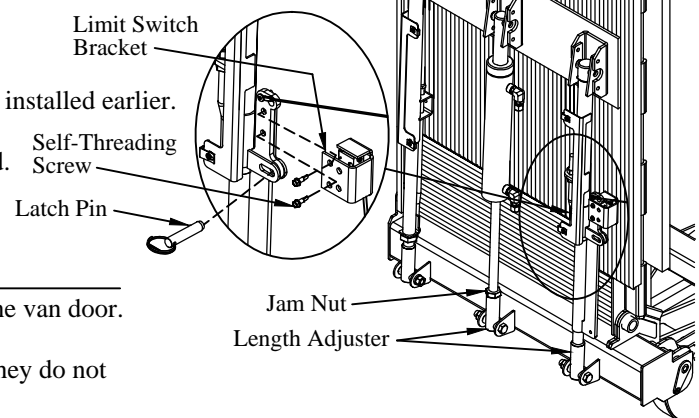

Figure 15: Platform latch and adjustment.
Make sure that the limit switch is not in the pushed position (Figure 15).
3. **Support** the platform to keep it from falling or hitting the van in the next step (Figure 15).